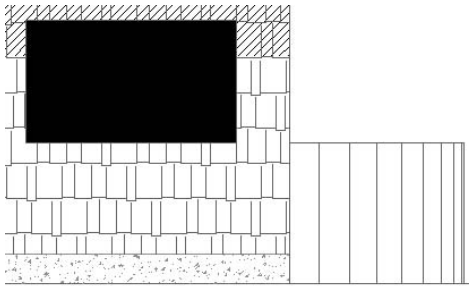

FIGURE 9.14: The balcony in elevation after erasing, extending, and trimming lines
6. Click the three lines that extend below the groundline. Click them below the groundline. Press the Shift key and click the five lines that need to be extended to the groundline. Press \downarrow to end the Trim command (see Figure 9.14).